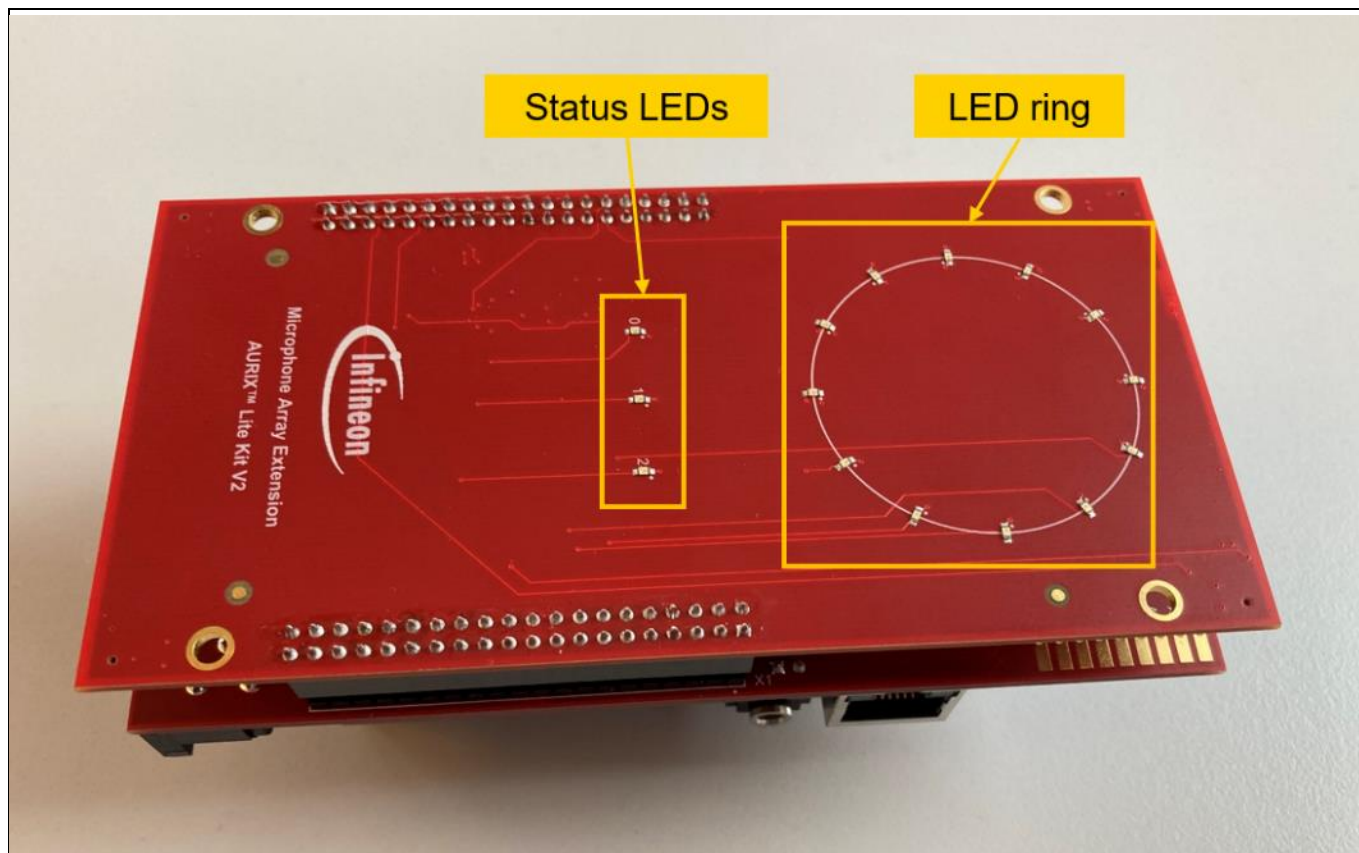

Figure 7 Microphone array extension board and its components
- The three status LED's are showing in binary-count, which microphone-channel is selected to show the live-level in the LED ring. See Figure 7.